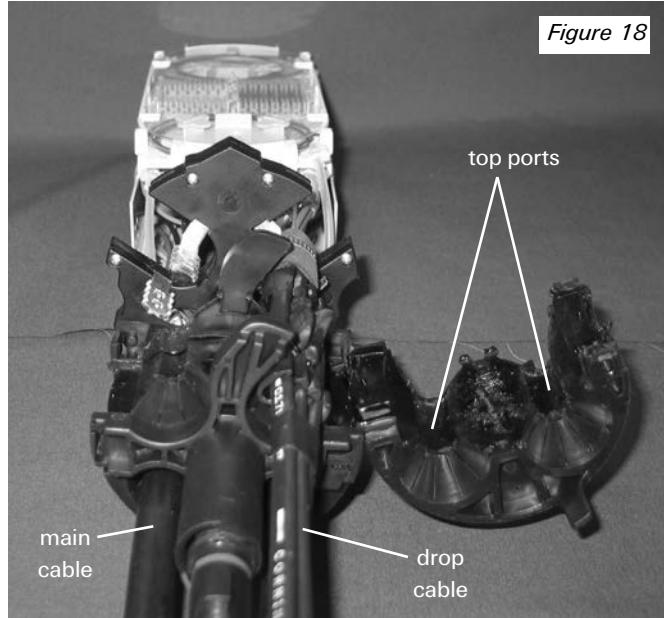

Figure 18
2. Hold the gel block with the hinge to the right. Install the gel block between the installed cables as shown. Making sure the small ports are at the bottom of the closure, hinge the top and bottom sections and snap together. (Fig. 18)